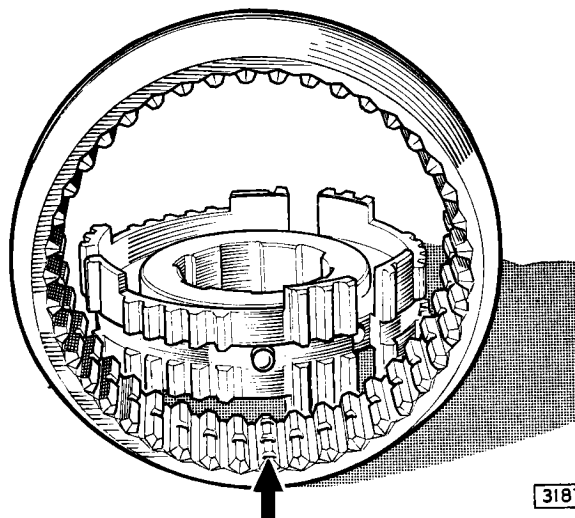

Fig. 56. Fitting the synchro hub in the sleeve.
2. The three balls and springs in line with the teeth having three detent grooves (Fig. 56).